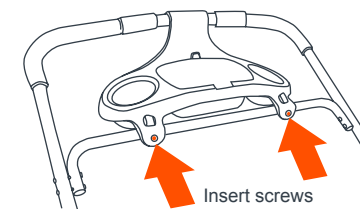

Fig. 7b
- Attach the lower portion of the parent tray to the cross tube, with the screws provided (Fig. 7b).